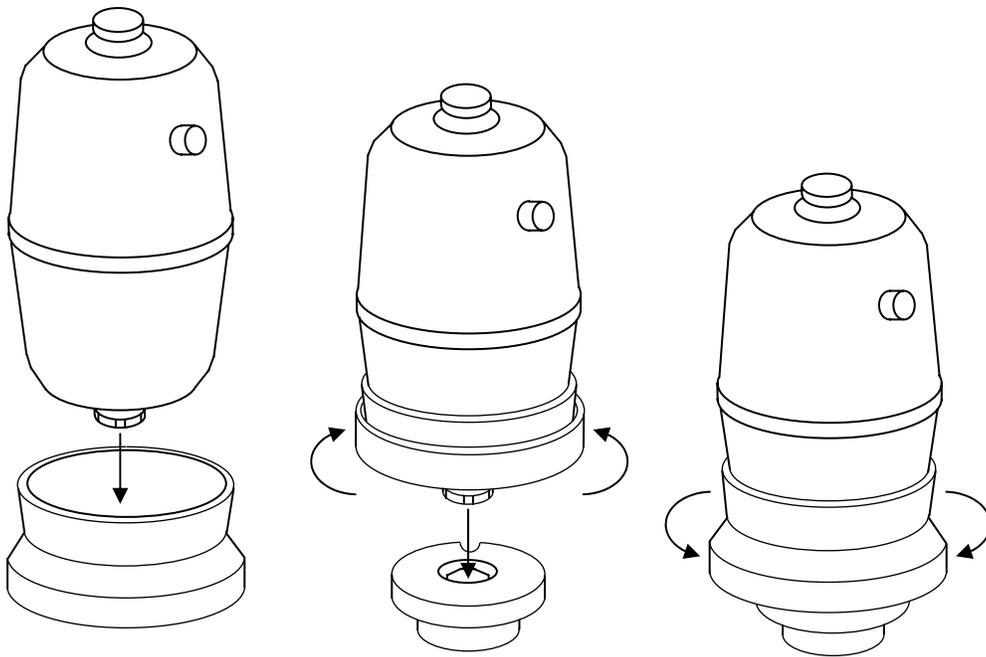

Figure 5-5: MTX Load Cell Installation
5. Install an MTX load cell (see Figure 5-5):